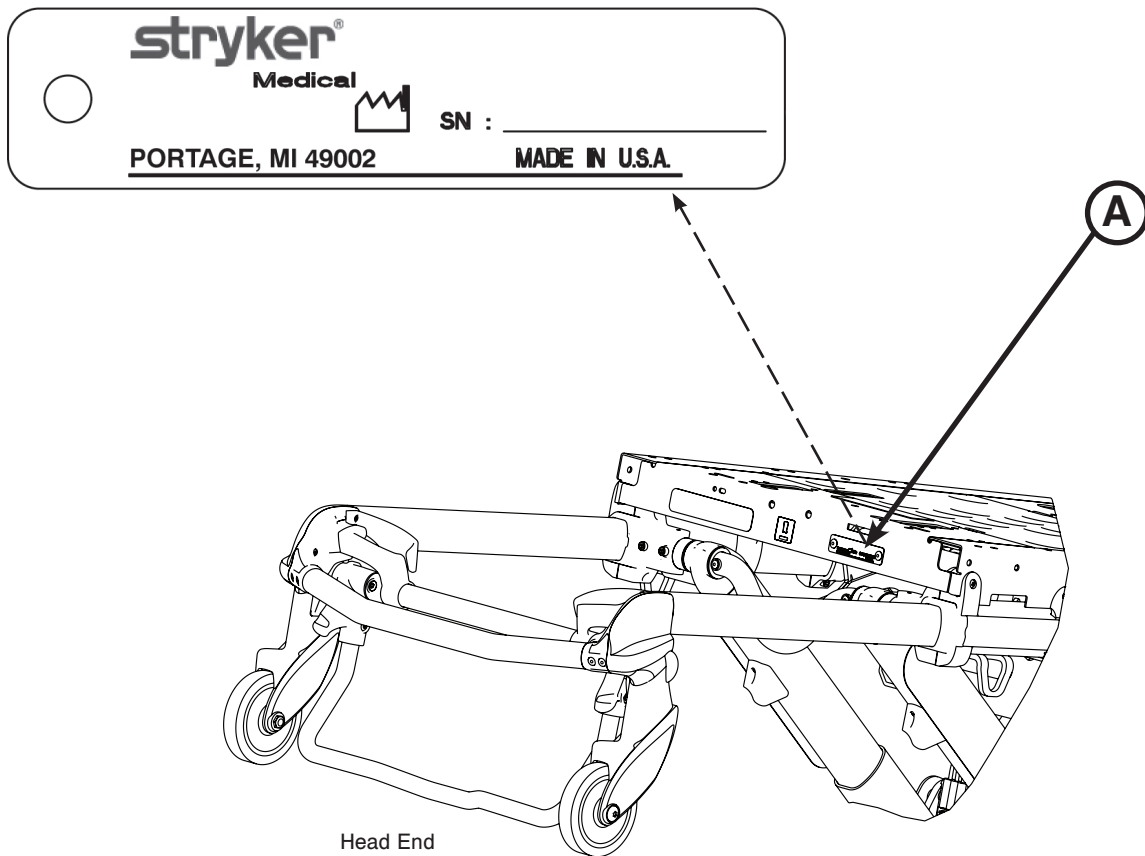

Figure 1: Cot Serial Number & Location
Please have the serial number (A) of your Stryker product available (as shown in Figure 1) when calling Stryker Customer Service or Technical Support. Include the serial number in all written communication.